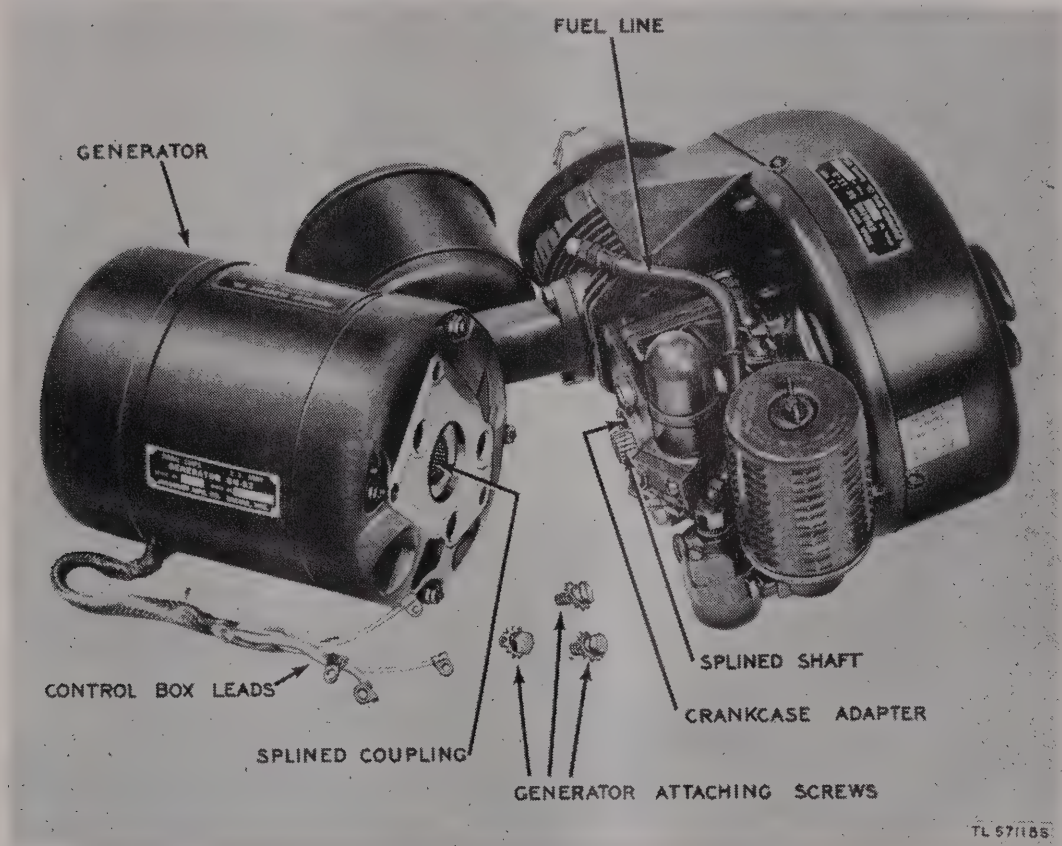

Figure 17. Generator disassembled from engine.
- (d) To remove generator from engine, disconnect lead wire from control box at the governor. Unscrew three hexagonal head cap screws from back side of bearing adapter. Tap generator until it is disengaged from the splined shaft of the engine crankshaft (fig. 17).
*a.* Smear a small amount of grease in the recess around the crankshaft splined end and also on the spline (fig. 17).